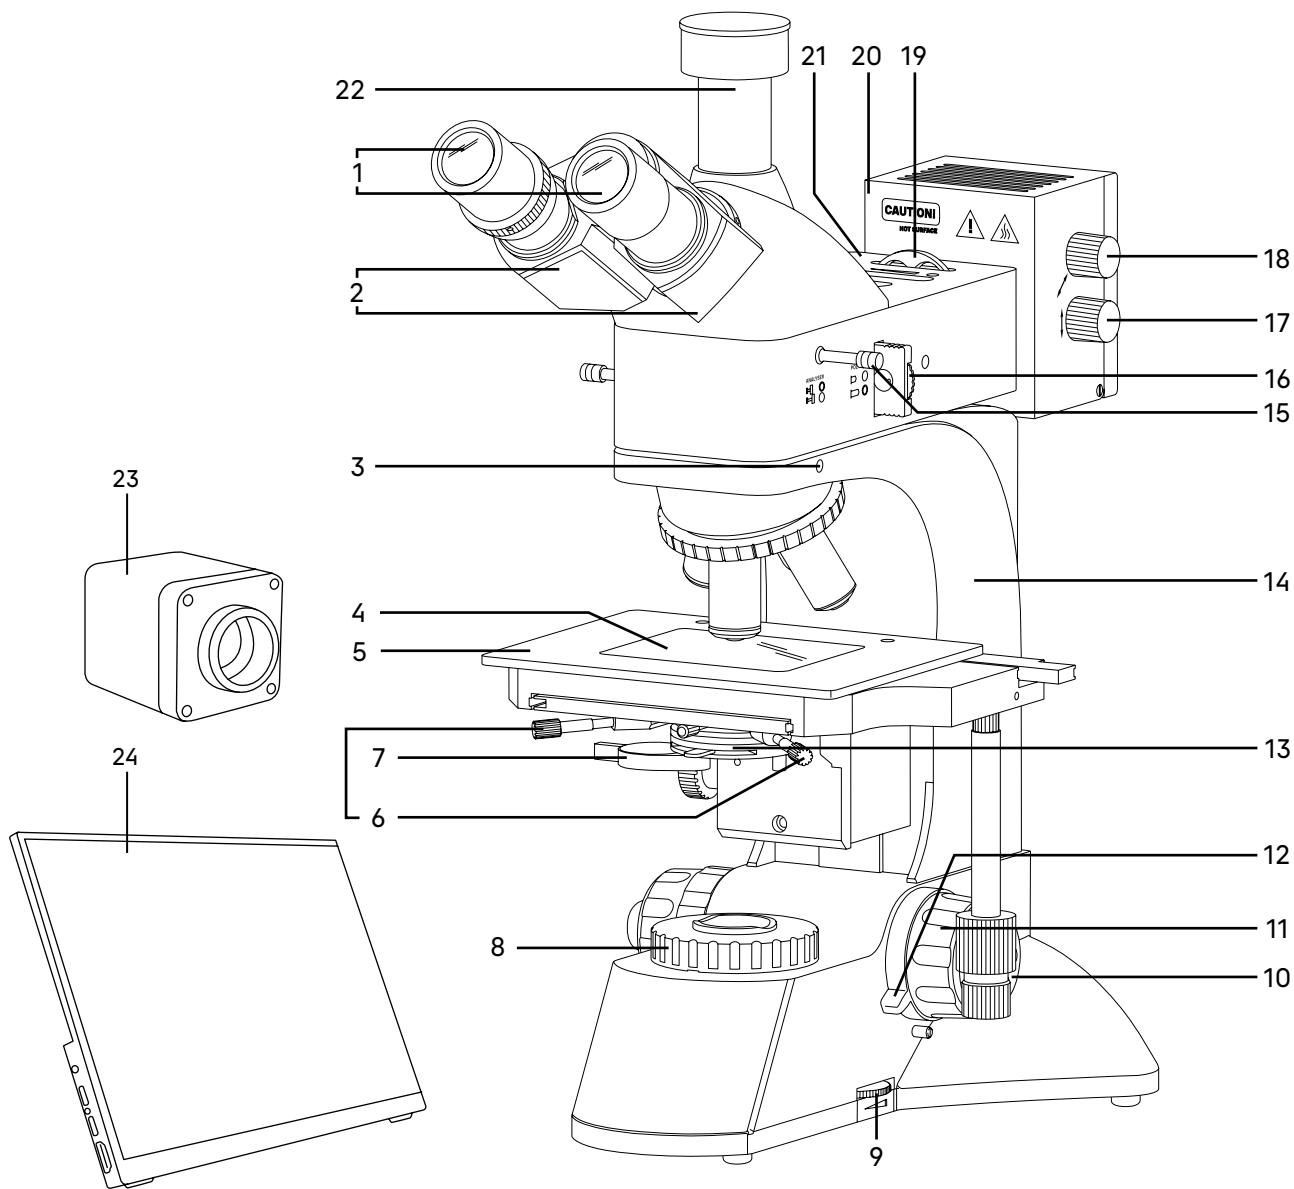
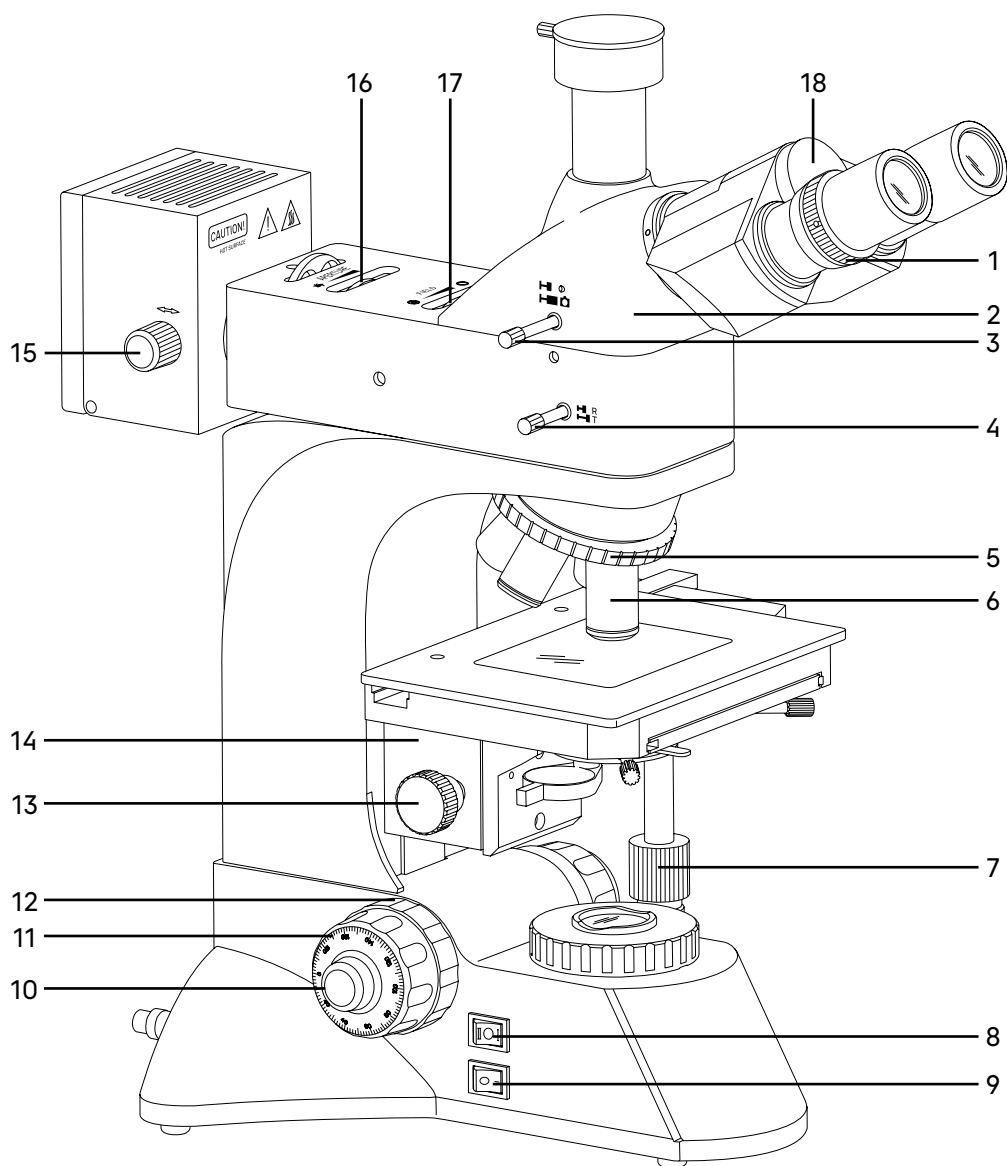

Fig. 1. MAGUS Metal D600 LCD Microscope. View from the right
Fig. 2. MAGUS Metal D600 LCD Microscope. View from the left
The general view of the microscope is given in Fig. 1, 2 and 3.
Parts attached to the stand 14 (Fig. 1):
- revolving nosepiece 5 (Fig. 2) with objectives 6 (Fig. 2)
- stage 5 (Fig. 1)
- condenser mount 14 (Fig. 2).
There is an ON/OFF switch 9 (Fig. 2) on the left side of the base. The power is on when the switch is in "–" position. The power is off when the switch is in "0" position.
There is also a transmitted/reflected light switch lever 8 (Fig. 2) on the left of the base. Position "I" corresponds to the transmitted light illuminator, position "II" – to the reflected light illuminator.
There is a brightness adjustment ring 9 (Fig. 1) on the right side of the base.
Focusing on the specimen is achieved by adjusting the height of the stage 5 (Fig. 1). Coarse focusing is performed by rotating the coaxial knobs 11 (Fig. 1 and 2) on both sides of the microscope stand.
Fine focusing is performed by rotating the knobs 10 (Fig. 1 and 2) on both sides of the microscope stand. Fine focusing allows for more precise focusing on the specimen and re-focusing the microscope to get an accurate image resolution when changing objectives.
The coarse focusing tension adjusting knob 12 (Fig. 2) is the ring between the stand and the coarse focusing knob on the left side. The ring adjusts the coarse focusing tension so that the tension is comfortable for the user, but the stage does not lower spontaneously during operation.
The coarse focusing lock knob 12 (Fig. 1) is located on the right side. Once the coarse focusing is completed, we recommend rotating the knob clockwise as far as it will go. This secures the coarse focusing position to allow for rapid re-focusing after the specimen is changed.
The microscope head 2 (Fig. 2) provides the visual observation of the specimen image.
The interpupillary distance is adjusted by rotating the eyepiece tubes 2 (Fig. 1) in the range of 48–75mm. The distance between the eyepieces matching the observer's interpupillary distance is marked on the adjustment scale 18 (Fig. 2) on the microscope head.
The diopter adjustment on the left eyepiece tube is intended to compensate for the observer's ametropia. The axial position of the eyepiece is adjusted by the ring 1 (Fig. 2). The second eyepiece tube is fixed.
A C-mount 1x adapter is installed in the trinocular tube 22 (Fig. 1) of the microscope head to fix the camera (video eyepiece). The camera is used to transmit the image to a computer screen or monitor/TV. You can switch the light path to the trinocular tube using the lever 3 (Fig. 2). The lever has two positions: 100/0 and 0/100.
The microscope kit includes eyepieces 1 (Fig. 1). The eyepieces have long eye relief and are designed to work with or without glasses.
Revolving nosepiece 5 (Fig. 2) allows for the installation of five objectives 6 (Fig. 2). Objectives are changed by rotating the knurled ring of the revolving nosepiece until the objective fits into place.
The X/Y stage 5 (Fig. 1) allows for moving the specimen in two mutually perpendicular directions using the knobs 7 (Fig. 2) located on the same axis.
The condenser 13 (Fig. 1) is installed using the mount 14 (Fig. 2) under the microscope stage. It has screw type fastening. You can move the condenser along the optical path of the microscope using the condenser focus knob 13 (Fig. 2) located on the left of the observer under the stage. The condenser focusing range is at least 13mm.
The bulb is powered from the AC power supply through a power source built into the stand. The illuminator is switched on by means of an ON/OFF switch 9 (Fig. 2) and a switch 8 (Fig. 2). The brightness is adjusted using the ring 9 (Fig. 1).